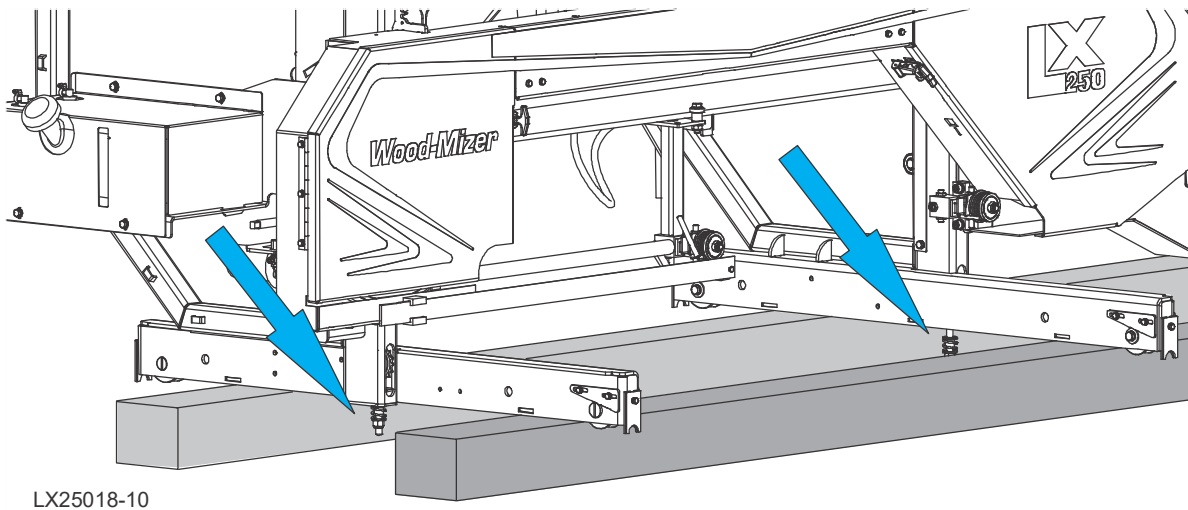

FIG. 3-2
4. Set the mast on the blocks called out in Section 3.1 Tools required. See Figure 3-2.
**CAUTION!** Use care to protect the adjustment screws at the bottom of the mast. See Figure 3-2.
See Figure 3-2.